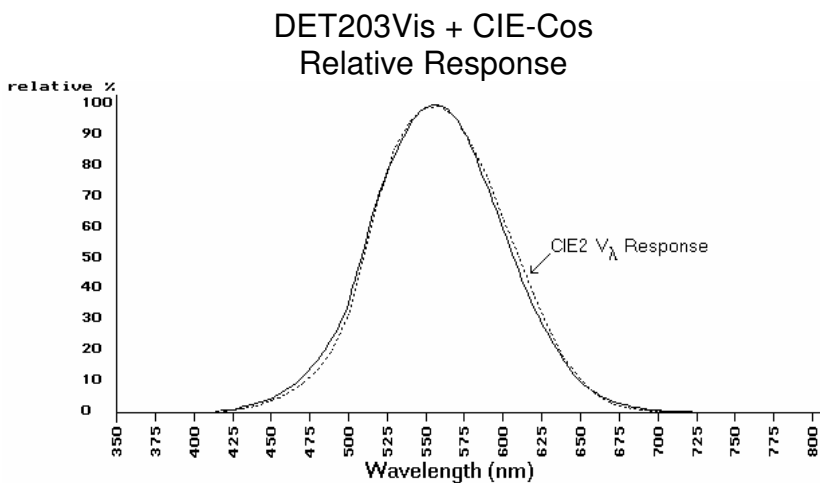

Figure 1
- Spectral Response: Refer Figure 1 and Section 7.
Spectral Response: Refer Figure 1 and Section 7.